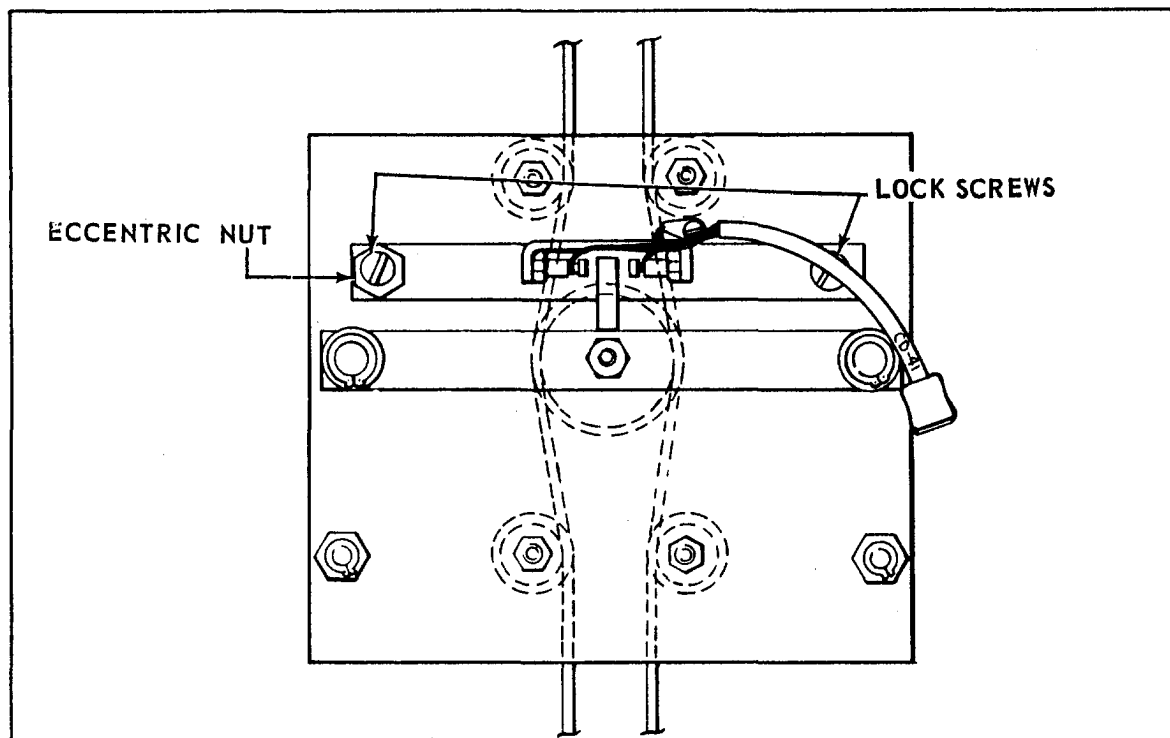

Figure 9-12. Plate Sensor Without Amplifier
9-31. TRIM SENSOR CENTERING PROCEDURES. The two types of sensors used on Piper airplanes with the III Series Automatic Pitch Trim Systems are shown in illustration form in this section of the manual, refer to figures 9-12 and 9-13. When making contact centering adjustments, it is very important to ascertain the type of sensor being adjusted and to follow the detailed instructions for that particular type sensor to avoid damage to the test equipment and the sensor.
- c. Centering procedure for Plate Type Trim Sensor. (Refer to Figure 9-12.)
- a. Loosen both screws of the contact support bar. (Refer to Figure 9-12.)